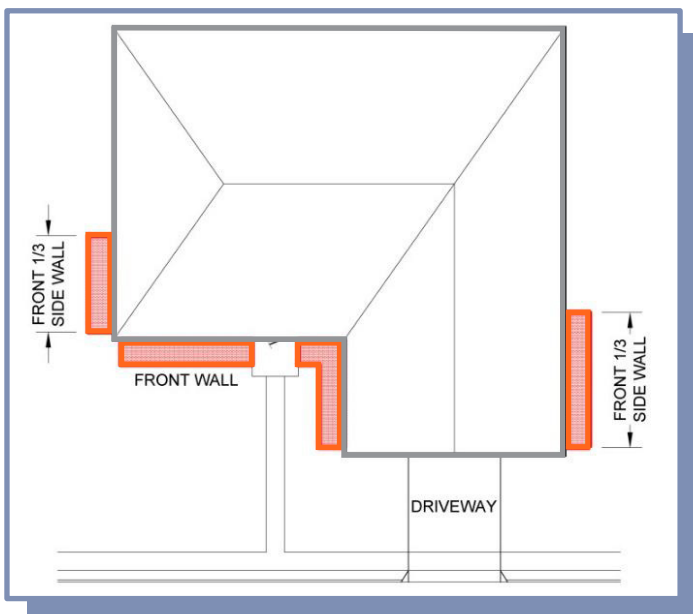

FIGURE 1: GAS METER LOCATION
- On the front wall, or within the front 1/3 of the side wall, observing the corner clearance requirements detailed below. (figure 1)